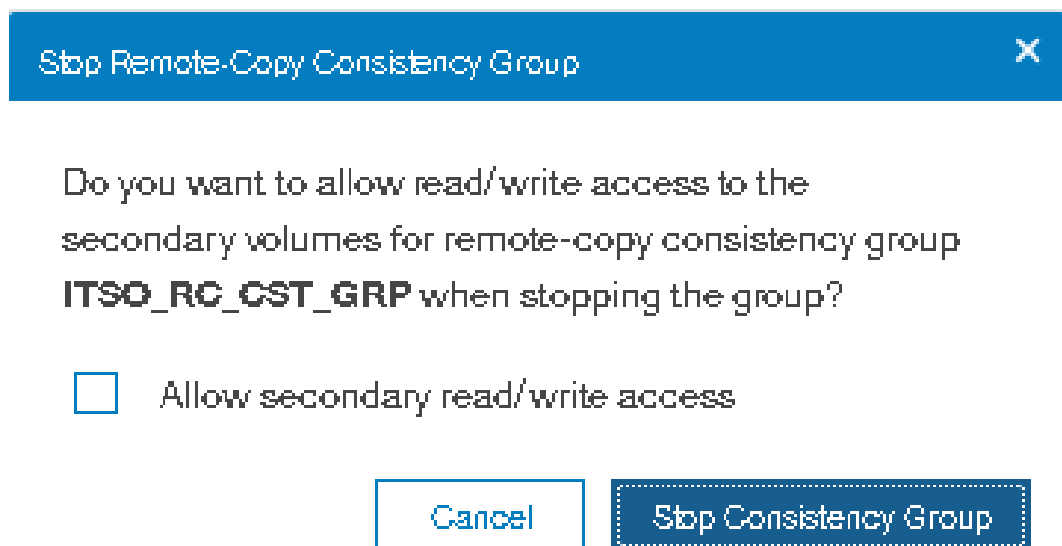

Figure 10-149 Stop Remote Copy Consistency Group window
4. The Stop Remote Copy Consistency Group window opens, as shown in Figure 10-149. To allow secondary read/write access, select **Allow secondary read/write access**. Then, click **Stop Consistency Group**.